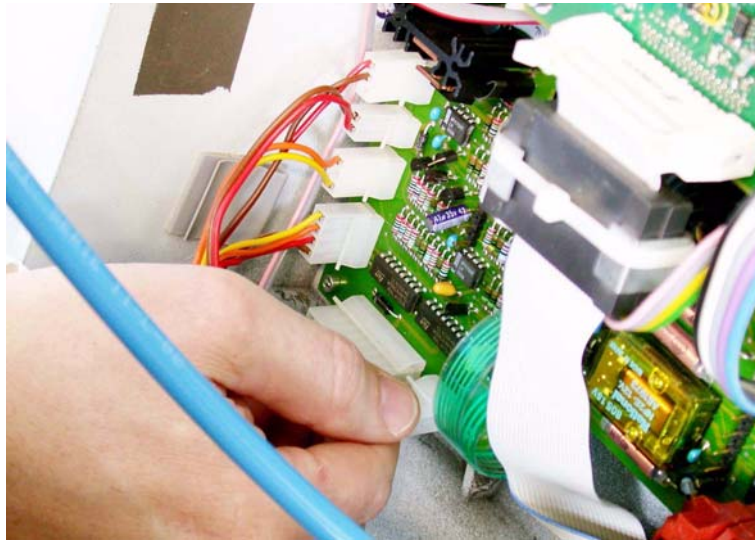

Figure 11-27. Removing the cable connector belonging to the ambient valve
3. Remove the cable connector belonging to the ambient valve solenoid from the *connector board*. (Figure 11-27.)